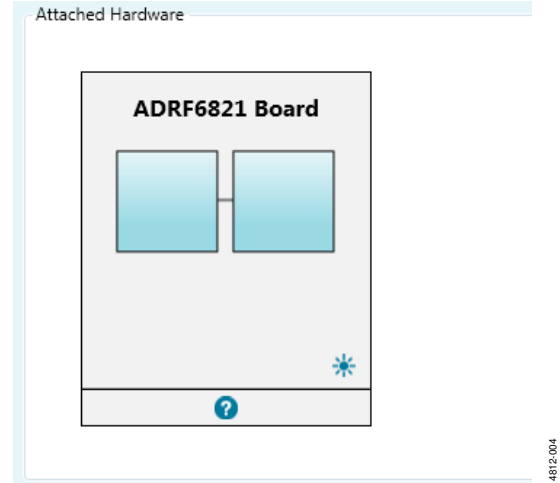
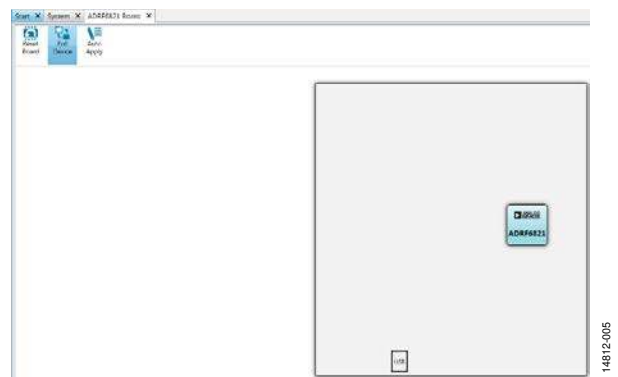

Figure 4. ACE Software Start Page when the ADRF6821 Connects
Figure 5. ADRF6821 Board Tab View
2. When the software main window opens, the software automatically detects the ADRF6821-EVALZ. Double-click the **ADRF6821 Board** icon shown in Figure 4. This brings the user to **ADRF6821 Board** tab (see Figure 5).